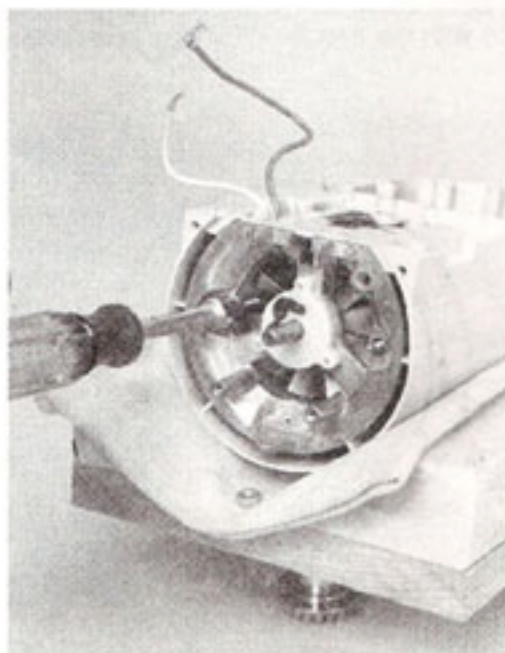

Fig. 42
- I. Install the bearing bracket. Start bracket onto the two stator screws. Push the bracket back until stator screws are through the bracket. Start the two nuts on the stator screws and turn them until bearing bracket is seated (Fig. 42).